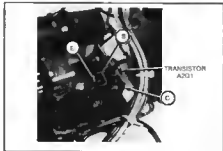

FIGURE 5-25 LOCATION OF TRANSISTOR A2Q1
10. Check power transistor A2Q1 and replace if necessary (see Figure 5-25).